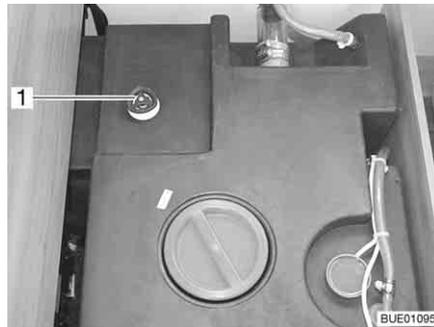
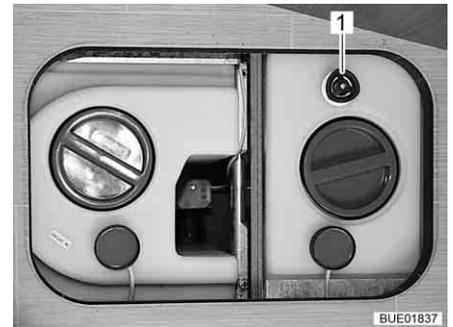

Fig. 222 Water tank with handle (Viseo)
Fig. 223 Water tank with handle (Elegance)
- Turn the handle (Fig. 222,1 or Fig. 223,1) on the water tank in a clockwise direction as far as it will go.
- Turn the handle (Fig. 222,1 or Fig. 223,1) on the water tank in an anticlockwise direction as far as it will go. The water runs out apart from a remaining amount (remaining amount with Viseo: 60 l, remaining amount with Elegance: 20 l).